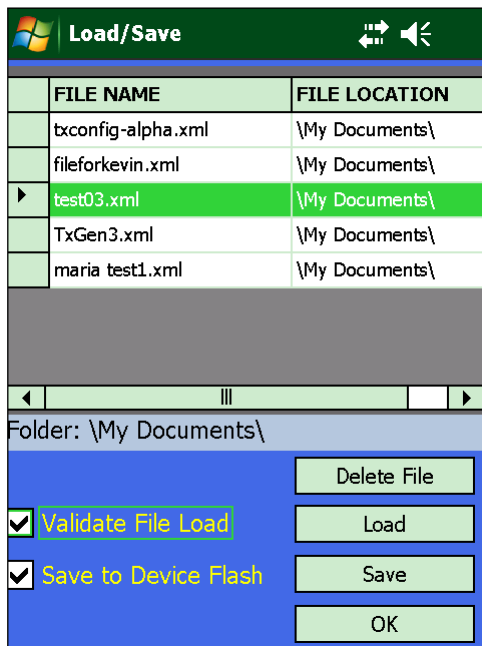

Figure 26: Load/Save--File to Delete
1. On the Load/Save screen, tap on the file to be deleted to highlight it, as shown in Figure 26.